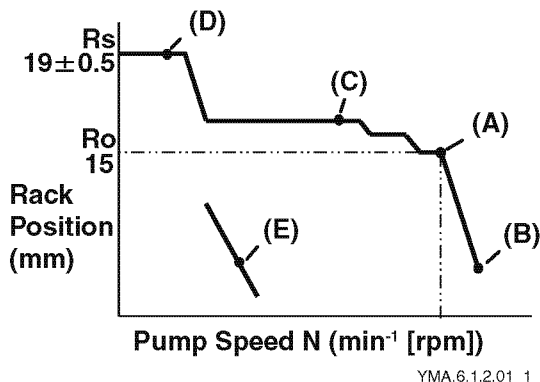

Figure 6-6
3. Adjust the rack position to Ro (15 mm [0.5905 in.]) (**Figure 6-6, (Ro)**) with the fuel limiter, and measure the injection volume (**Figure 6-6, (A)**) at the rated speed.
6. Adjust the position of the high idle set bolt (**Figure 6-4, (1)**) at high idle speed to achieve the specified injection volume (**Figure 6-6, (B)**).
8. Turn the volume adjustment screw to the torque-rise speed to achieve the specified injection volume (**Figure 6-6, (C)**).
10. Confirm the injection volume (Figure 6-6, (D)) at starting at the specified speed.
12. Adjust the position of the low idle set bolt (Figure 6-4, (4)) at low idle speed to achieve the specified injection volume (Figure 6-6, (E)).